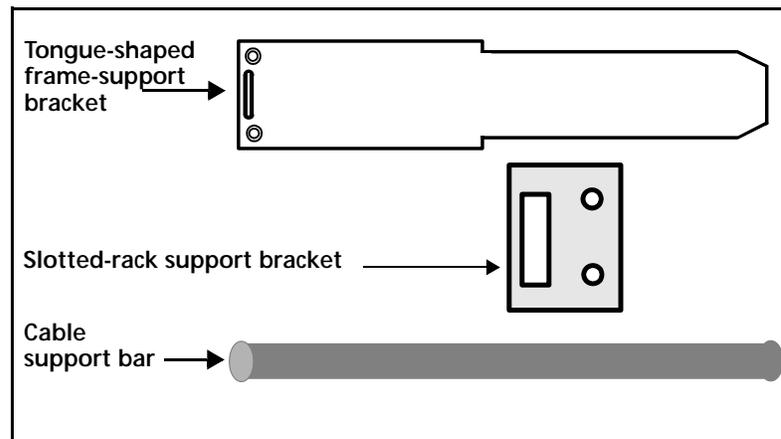

Figure 2-2 Optional Support Brackets and Cable Support Bar
- 1 Locate two tongue-shaped frame support brackets, two slotted rack-support brackets, and one cable support bar from the packing box (if ordered). See Figure 2-2.